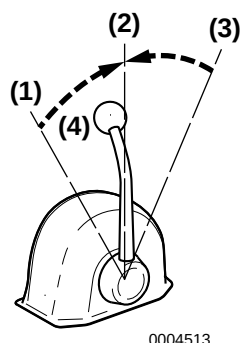

Figure 2
Use the throttle handle (**Figure 2, (4)**) to control acceleration and deceleration. Move the handle slowly.
2. **NOTICE:** *NEVER* shift the marine gear at high engine speed. During normal operation, the marine gear should only be shifted with the engine at idle. When moving the handle between FORWARD (**Figure 2, (1)**) and REVERSE (**Figure 2, (3)**), bring the clutch to NEUTRAL (**Figure 2, (2)**) and pause before slowly shifting to the desired position. Do not shift abruptly from FORWARD to REVERSE or vice versa.